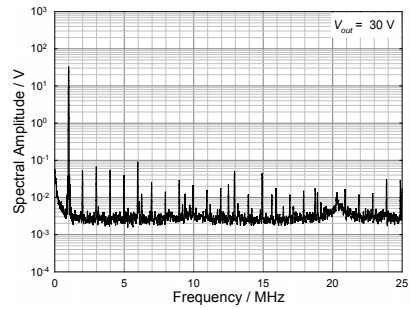

Fig. 4. Frequency spectrum of the output voltage at 30 V amplitude.
- capacitance of the dc inputs: approx. 720 nF, this consists of 220 nF between each input and the ground (capacitors C3 and C4) and 1  $\mu$ F between the inputs (capacitor C7, all in Fig. 4 in the documentation of the basic device)